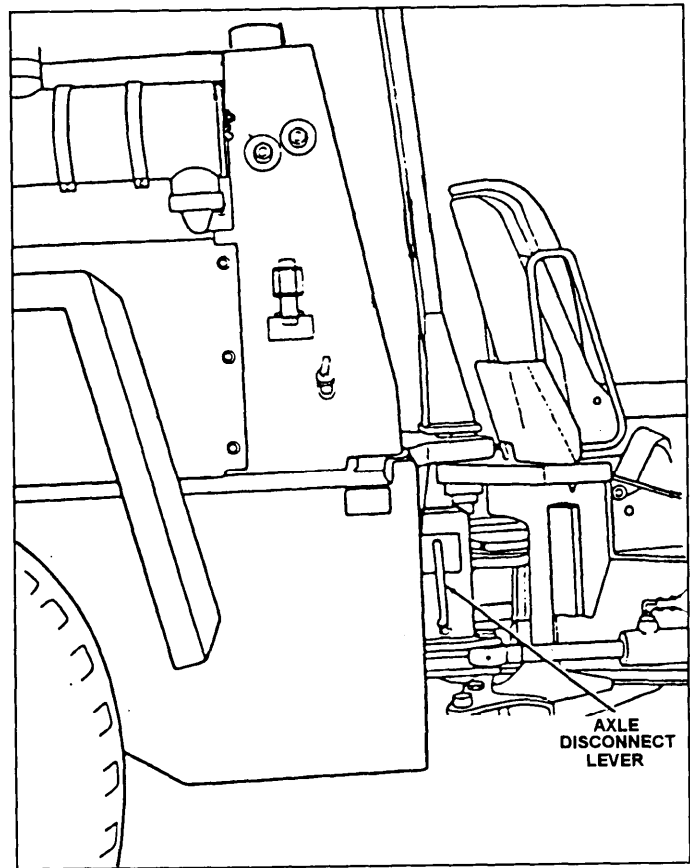

Figure 8-5.—Axle disconnect lever.
3. Push the **axle disconnect lever** (fig. 8-5) to the right toward the front chassis to disconnect the axles for towing.